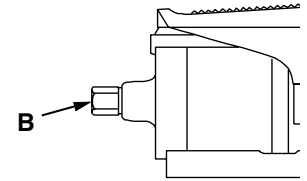

Figure 5
1. See Figure 5. Connect a 9 CFM [15 m3/h] (minimum) air supply source to the  $\frac{1}{4}$ " [0,5 cm] NPTF pump air inlet swivel connector (B). Use only  $\frac{1}{4}$ " [0,5 cm] hose or quick disconnect fittings. Larger, heavier fittings are not recommended. Use a high-grade pipe thread sealer to seal the connection.